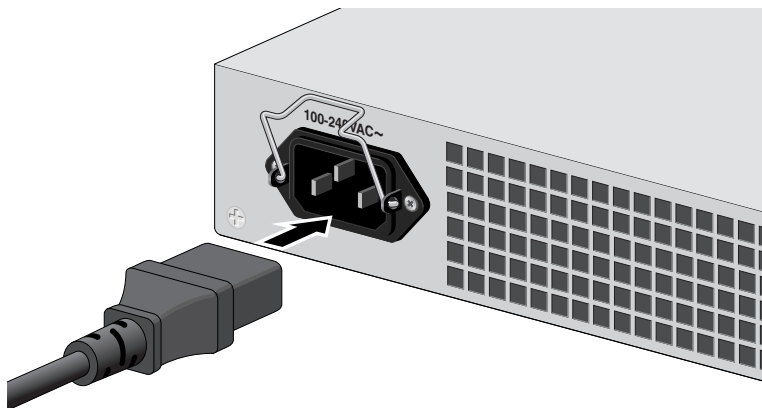

Figure 29. Connecting the AC Power Cord
2. Plug the power cord into the AC power connector on the back panel of the unit (see Figure 29).